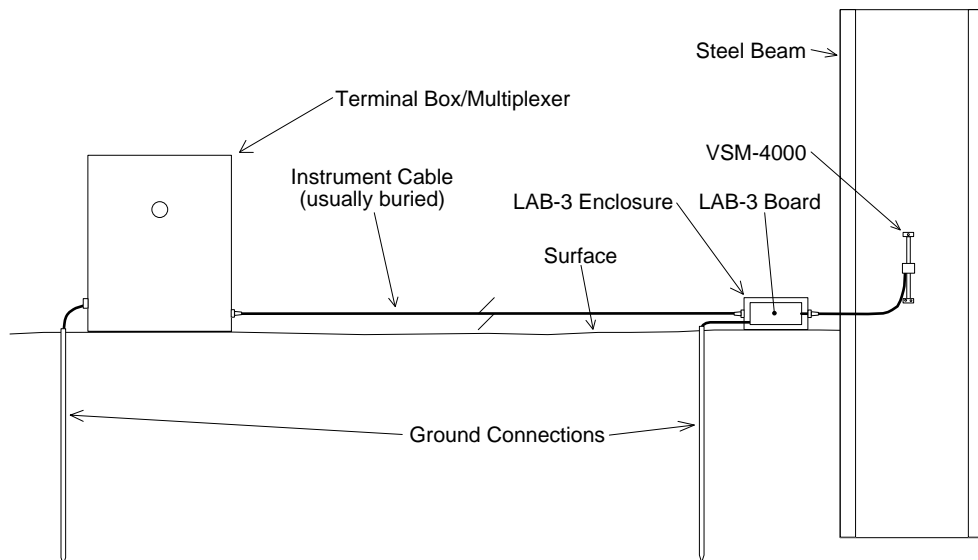

Figure 5 - Lightning Protection Scheme
- Lightning arrestor boards and enclosures are available from Geokon that install at the exit point of the instrument cable from the structure being monitored. The enclosure has a removable top so, in the event the protection board (LAB-3) is damaged, the user may service the components (or replace the board). A connection is made between this enclosure and earth ground to facilitate the passing of transients away from the gage. See Figure 5. Consult the factory for additional information on these or alternate lightning protection schemes.